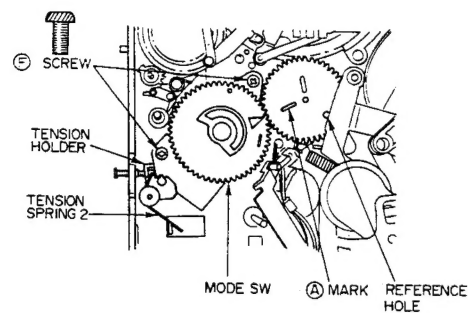

Fig. 3-38
13. When installing the MODE SWITCH, align the MODE SWITCH's \triangleright mark with the A mark on the CAM-M, and the CAM-M's reference hole should be aligned with its reference hole on the chassis as shown in Fig. 3-38.